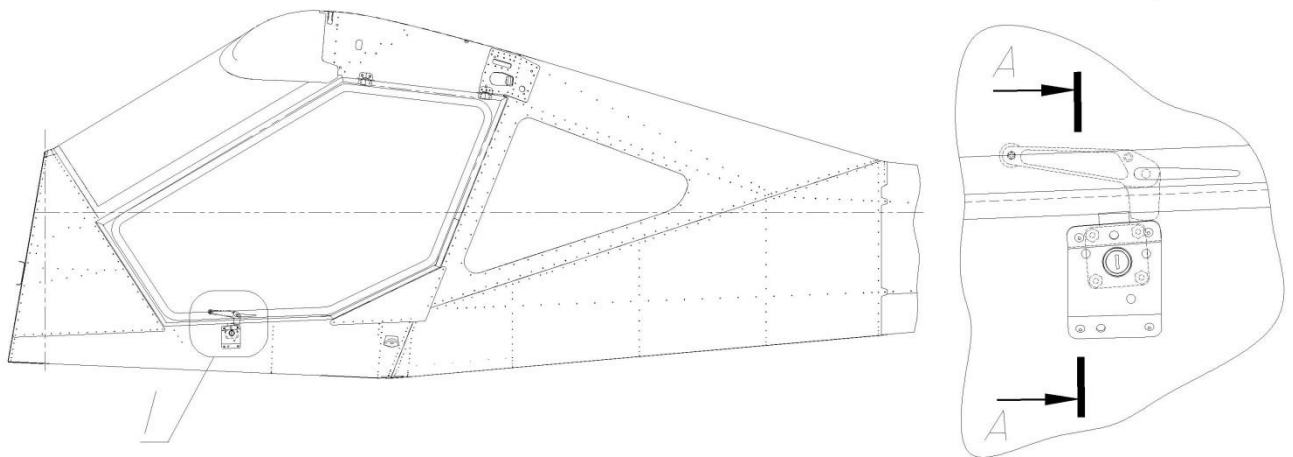

Fig. 1
**3.1) Removal of old latch lever and handle** (fig. 1, 2)